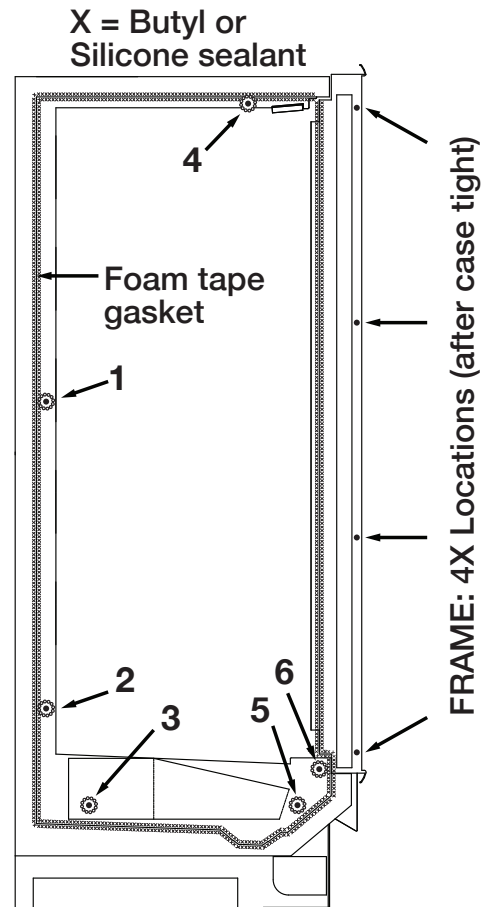

Fig. 52 Bolt holes, foam tape gasket, and sealant
6. Push the cases tightly together, then lightly bolt them together through the six holes (Fig. 52). Tighten all the joining bolts until all margins between the cases are equal.